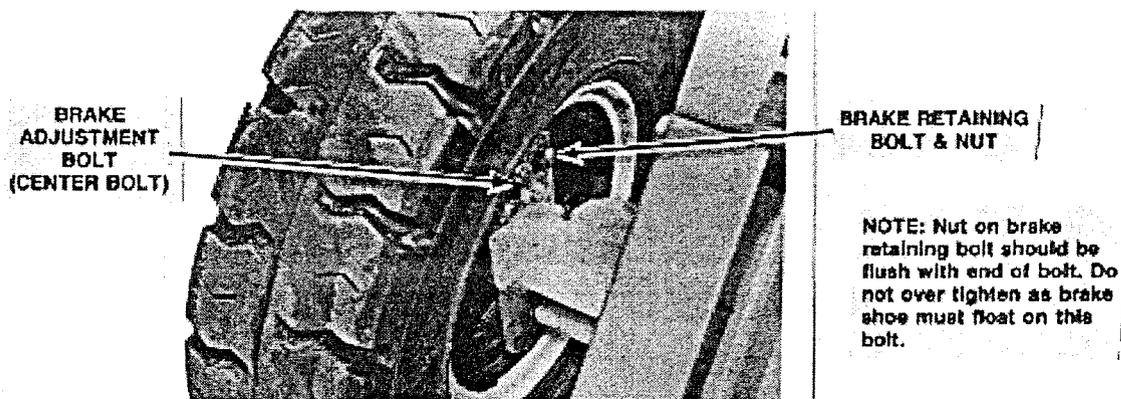

FIG. 1-14 Brake Adjustment
- c. Loosen lock nut from brake adjustment bolt (Figure 1-14). If wheels turn freely, move adjustment bolt towards inside of mounting bracket until wheel becomes tight.